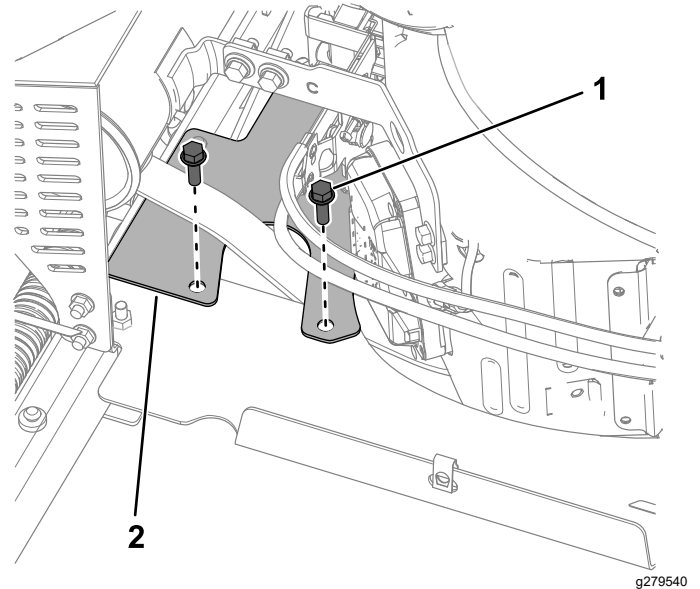

Figure 35
2. Remove the 2 bolts (5/16 x 1 inch) and belt guard (Figure 35).